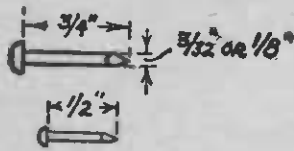

FIGURE 9
F. SWITCH POINTS AND STOPS (Figure 9). The switch points are made from 12 brass pins with heads surfaced off with a file or in a lathe. This work requires accuracy to insure smooth operation of switch blades. The switch stops are made from four small brass pins.